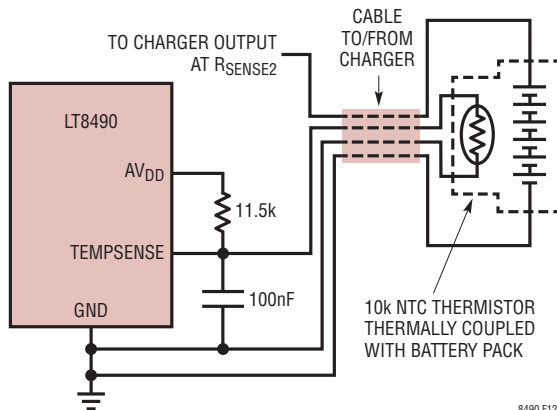

Figure 12. Battery Temperature Sensing Circuit
The LT8490 can measure the battery temperature using an NTC (negative temperature coefficient) thermistor thermally coupled to the battery pack. The temperature monitoring function is enabled by connecting a 10kΩ, $\beta = 3380$ NTC thermistor from the TEMPSENSE pin to ground and an 11.5kΩ resistor from AV_{DD} to TEMPSENSE (as shown in Figure 12). If battery temperature monitoring is not required, then use a 10kΩ resistor in place of the thermistor. This will indicate to the LT8490 that the battery is always at 25°C.
3. BATTERY DISCONNECT SENSING: The LT8490 detects if the battery and thermistor have been disconnected from the charger by monitoring the TEMPSENSE pin voltage. When the connection to the battery is severed, as shown by the arrow in Figure 12, the connection to the thermistor is also severed and the TEMPSENSE voltage rises up to AV_{DD} through the 11.5kΩ resistor. During the time when the battery is not present, the LT8490 halts charging. The charger automatically restarts the charging at Stage 0 when a battery (along with integrated thermistor or resistor) is sensed through the TEMPSENSE pin.